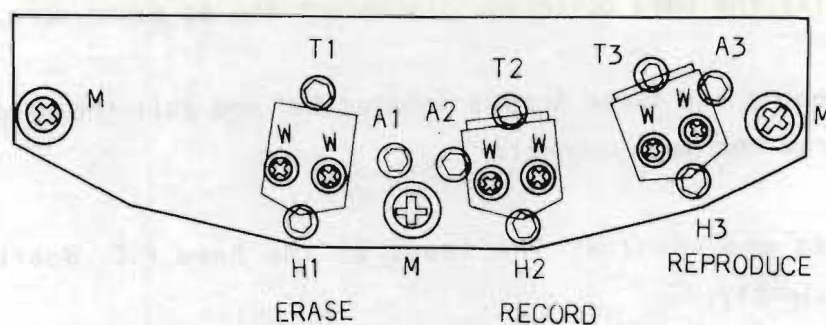

Figure 8-5 Head Assembly
The head assembly is mounted on three tape-guide posts and secured in place by the three screws labeled "M" in Figure 8-5 .
If tape wrap is incorrect, adjust the wrap by loosening the screws labeled "W" as shown in Figure 8-5.
2. Observe the reading on the wave analyzer and turn screw "H" (Figure 8-5) 1/4 turn clockwise.